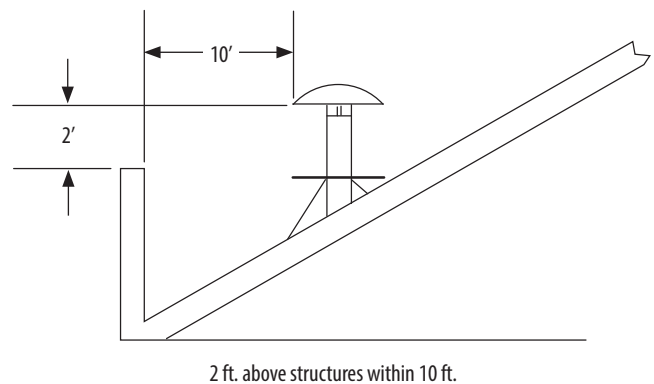

Figure 2- Vertical Installation Requirements
1. The vent system must terminate at least 3 feet above the roof line and at least 2 feet higher than any portion of the building within 10 feet. See Figure 2. This limitation can be removed if an engineering analysis demonstrates normal and safe operation of appliance.
3. The vent system must terminate with one of the DAS1-(BC) terminations.